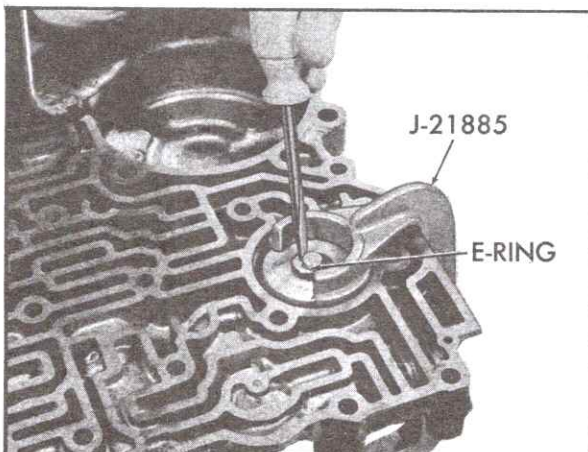

Fig. 7-203 Removing Front Accumulator
e. Install Control Valve Accumulator Piston Installer, J-21885, on accumulator piston, compress piston and remove E-ring retainer, Fig. 7-203.
v. Position front accumulator spring and piston into valve body and install Control Valve Accumulator Piston Installer, J-21885, on piston. Compress spring and piston, aligning spring and piston with bore, Fig. 7-203.